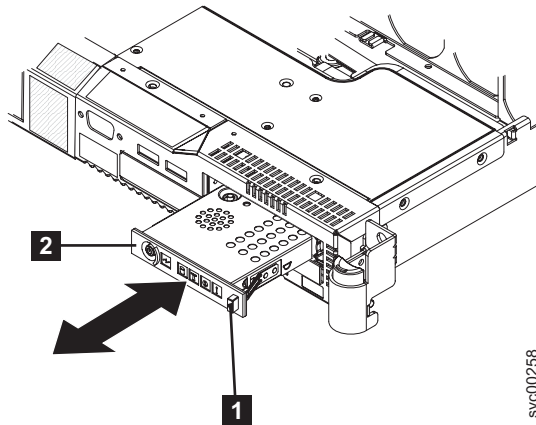

Figure 168. Releasing the light path assembly
9. Release the light path assembly **2**, using the release button (**1** in Figure 168 on page 442) on the front, and pull forward until it locks in place.